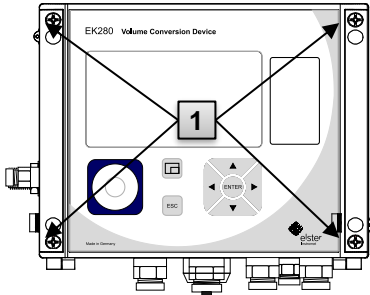

Fig. 27
2. Loosen the four screws Fig. 27: **1** which are keeping the housing closed.
10. Close the housing using the screws provided (Fig. 27: **1**).